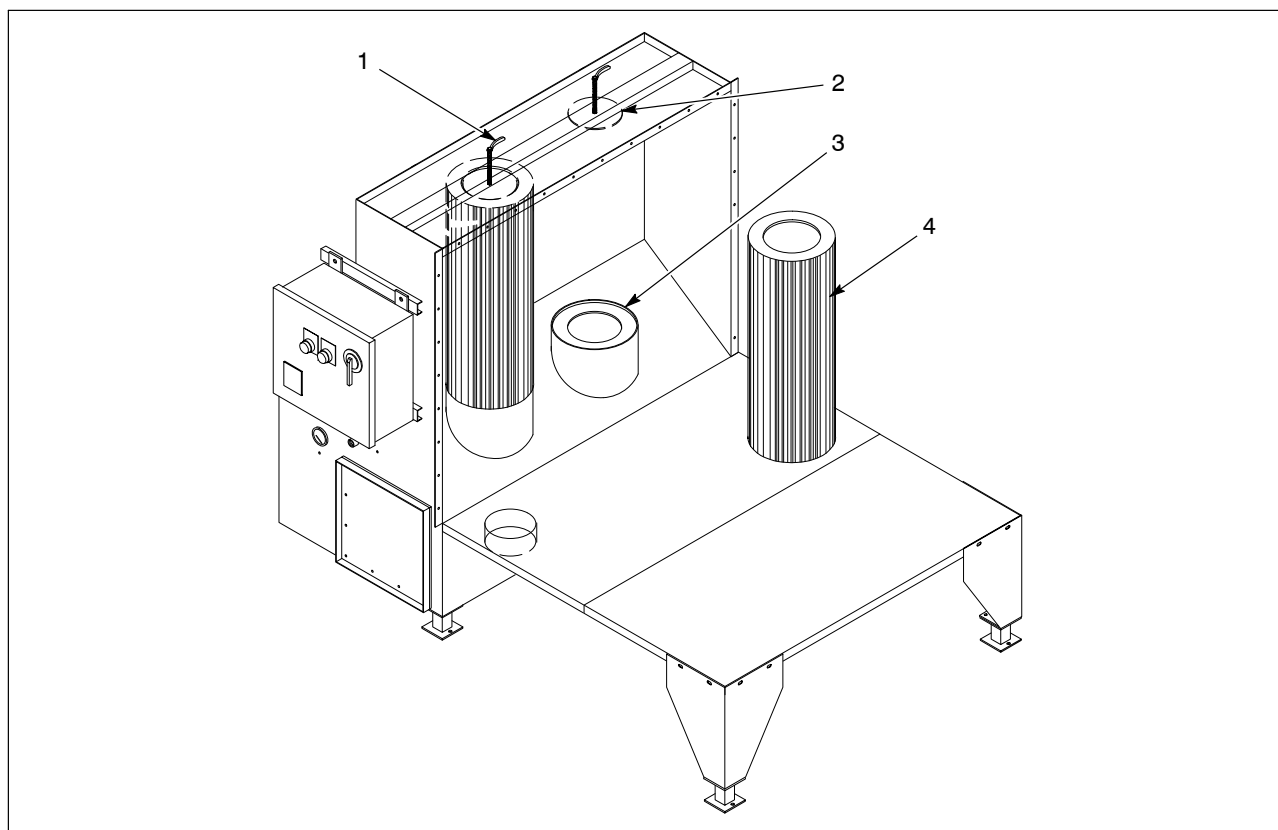

Figure 6-2 Cartridge Filter Replacement (Enclosure Not Shown for Clarity)
4. See Figure 6-2. Turn the push-plate handles (1) counterclockwise until the push-plates (2) are approximately 1-inch above the top of the cartridges filter (4).
5. Remove the old cartridge filters from the collector module. Clean the filter retainers (3).